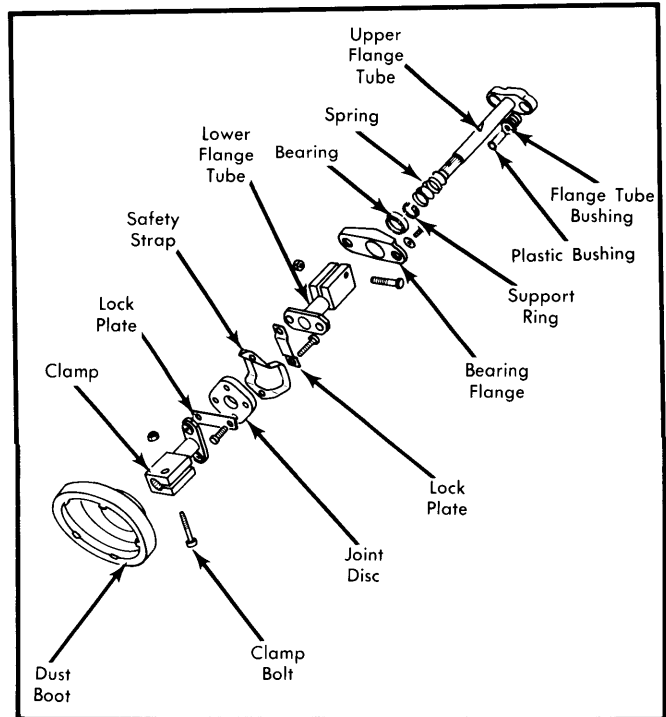

Fig. 2 Exploded View of Audi 4000 Lower Steering Column
Disassembly - 1) On lower steering shaft, remove clamp bolt attaching lower flange tube to upper flange tube. Separate flange tubes and remove bearing flange, bearing, support ring, spring and washer. See Fig. 2.
2) Push upper flange tube towards steering shaft until components can be separated. Remove flange tube bushings with plastic bushings. See Fig. 2.